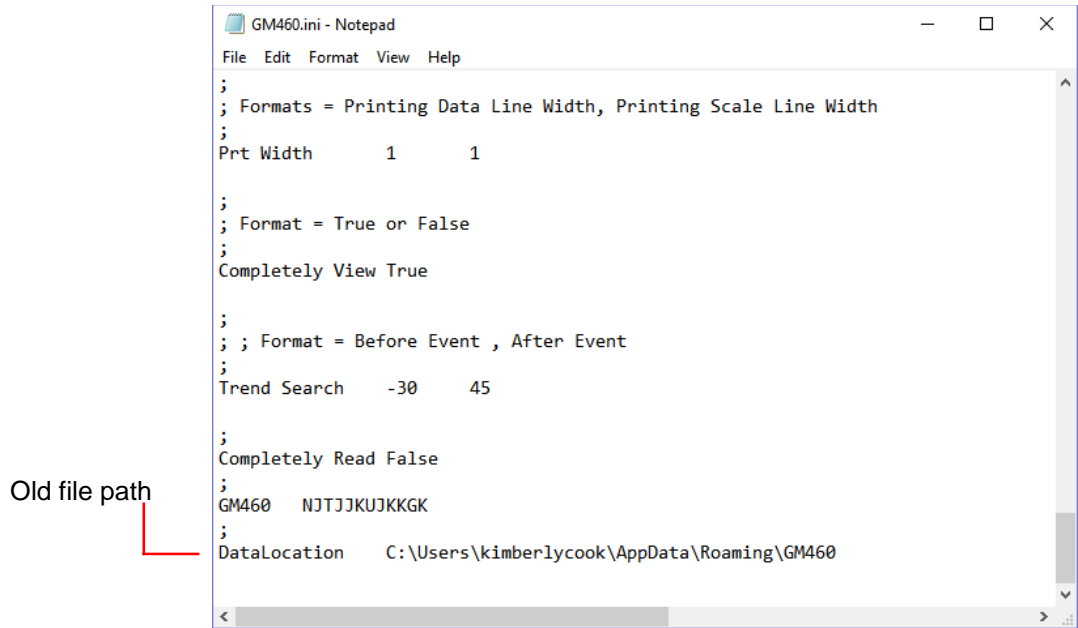
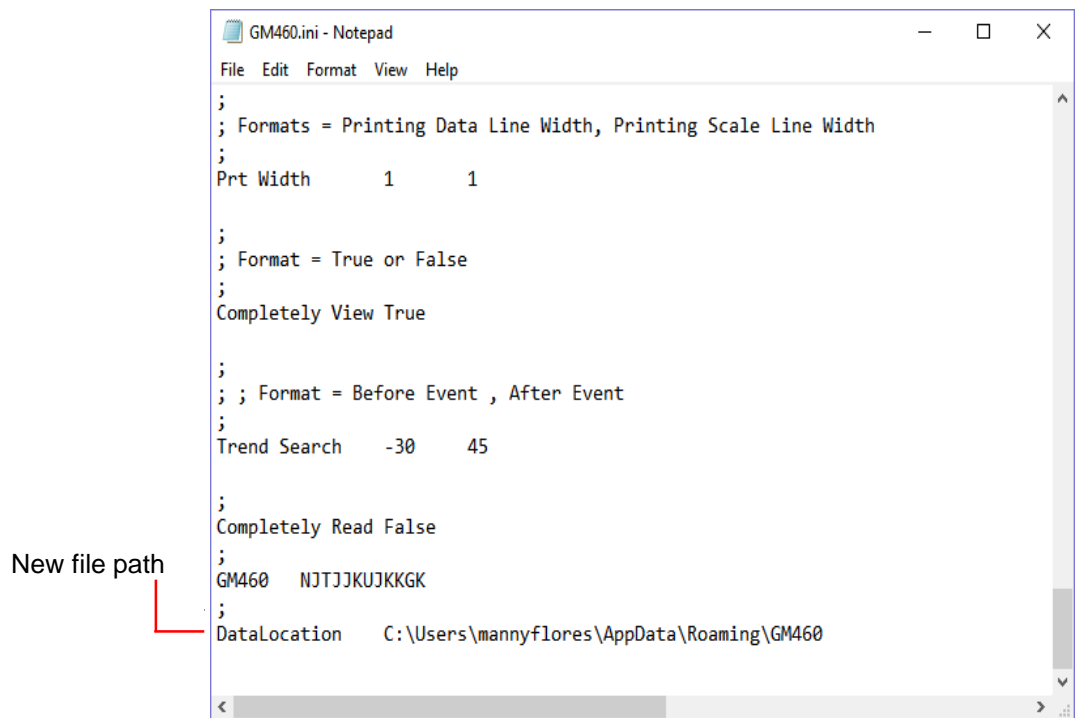

Figure 9: GM460.ini File with Original Path
Figure 10: GM460.ini File with New Path
3. Open GM460.ini file in Notepad and scroll down to the very last line. This line is the Data Location path. An example of the path created by the program is shown in Figure 9. Replace the current path with the desired path (see Figure 10).